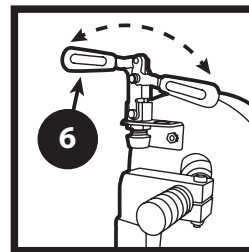

FIGURE 4
6. To install or remove abrasive belt, push the Tension Handle toward the rear of the machine. (Figure 4) When the spring tension is released, open the door of the guard and install or remove the abrasive belt. Return the tension handle to its position at the front of the machine to tighten the belt.